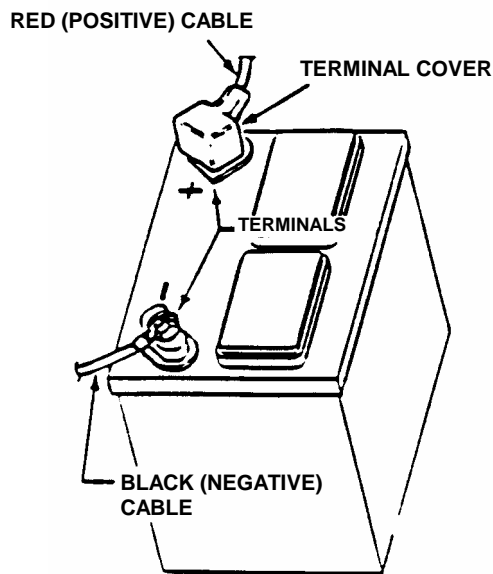

FIGURE 5.8
3. Observe and note cable positions on battery. See Figure 5.8.